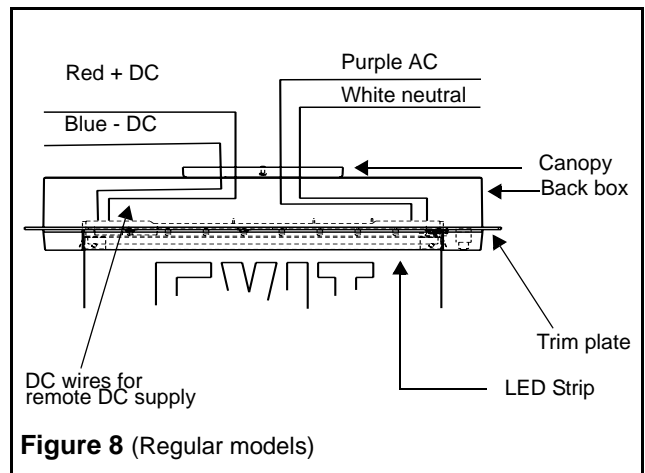
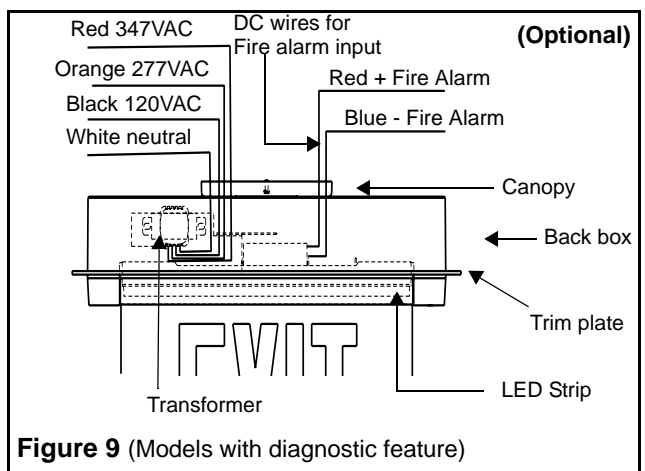

Figure 8 (Regular models)
Figure 9 (Models with diagnostic feature)
- a. Make the proper connections. Our system can accept input voltages of 120 VAC to 347 VAC. For regular models connect the purple (hot) and white (common) leads to the building utility (Figure 8). For models with diagnostic feature connect the white (common), black (120 VAC) or red (347 VAC) orange (277 VAC) leads to the building utility (Figure 9).